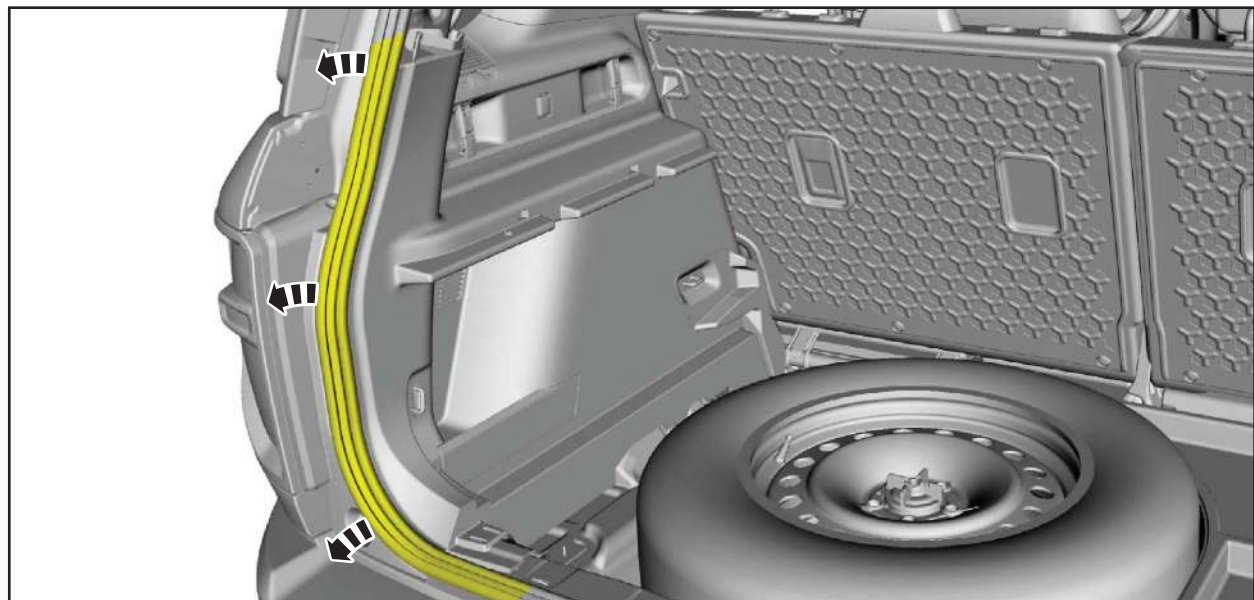

FIGURE 20
20. Position the LH liftgate weatherstrip aside. See Figure 20.